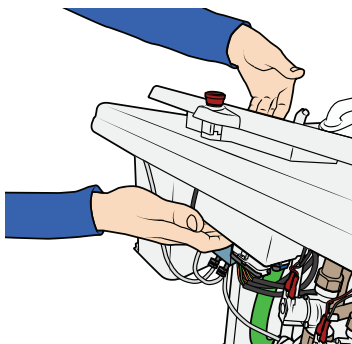

Figure 36
19. Carefully lift and remove the Main panel unit (panel and PCBA box). Support under the box during lift. See Figure 36.
21. Disconnect the six electrical connections to the fill solenoid valves on the pipe connections. Remember their positions. See Figure 36.